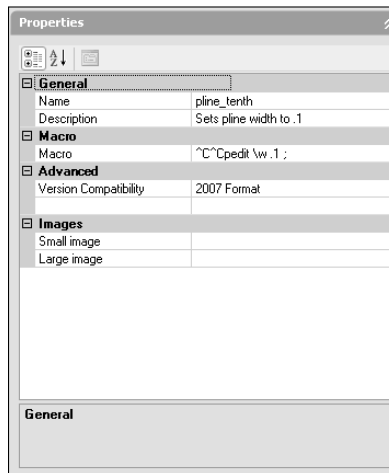

**Figure 29-9:** The completed Properties pane for the custom command.
14. Complete the Properties pane as shown in Figure 29-9. Type the macro as follows after the `^C^C` (which is already there), being careful to also include the spaces: